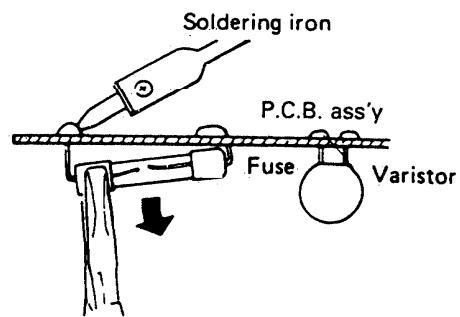

Fig. 11
2. Pull out the fuse at the metal clasp by a pair of pliers while heating the soldered leads on the back side of the P.C.B. ass'y with a soldering iron (30W or 60W). Fig. 11.